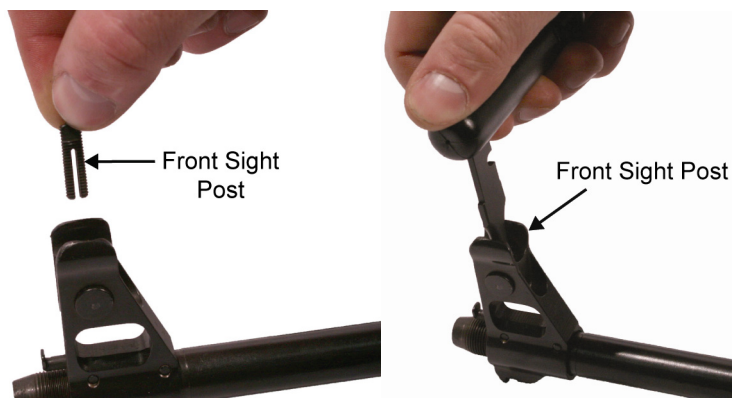

Figure 80. Installing the Front Sight Post.
- b. Using the front sight adjustment tool or the combination tool, install the front sight post. Refer to Figure 80.